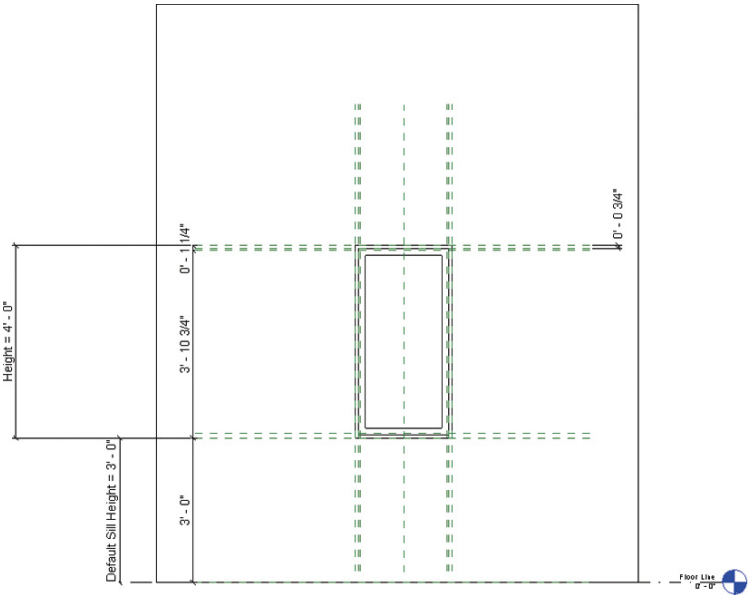

FIGURE 6.34 Reference planes and dimension parameters
3. Activate the Exterior elevation view from the Project Browser window by double-clicking the Exterior elevation view (Figure 6.34).